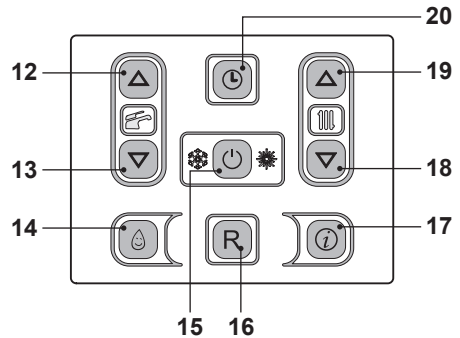

Fig. 2.9
- Press the key 15 for 2 seconds until the  symbol appears on the display Fig. 2.9.
The output temperature of C.H. water can be adjusted by pressing keys 18 (reduce) and 19 (increase) (Fig. 2.9) from a minimum of about 25°C to a maximum of about 85°C. Press one of the two keys once to display the "set" value. Press again to access the modification.
However, if the ambient temperature is not comfortable, the flow temperature of the heating plant can be increased or reduced by  $\pm 15^\circ\text{C}$  by acting on keys 18 (reduce) and 19 (increase) (Fig. 2.9).
The heating temperature of the zone valve controlled by a thermostat is configured on the boiler control panel using keys 18 and 19 Fig. 2.9.